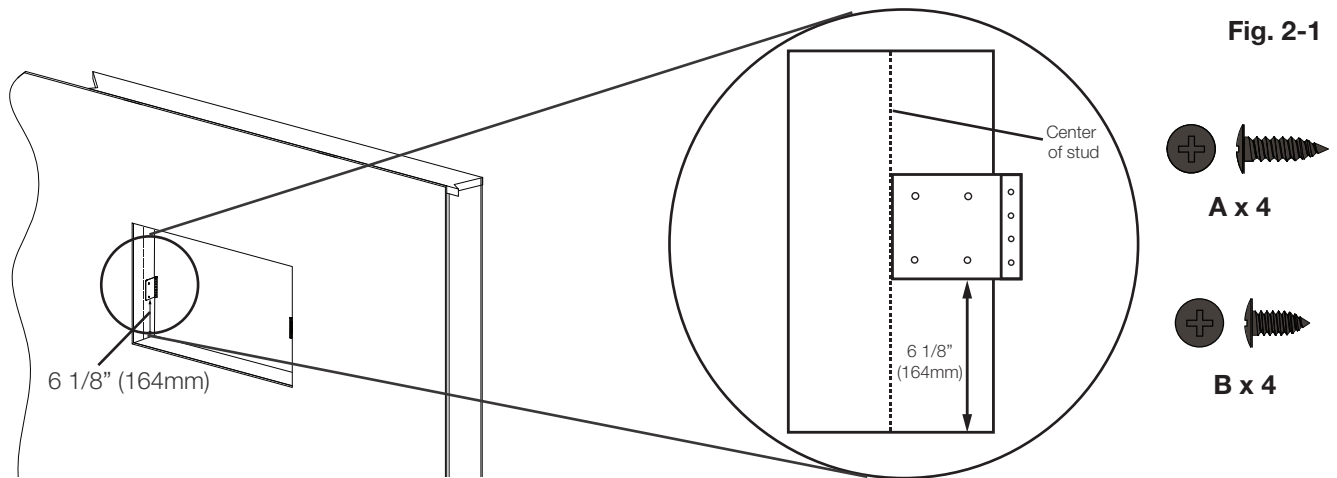

Fig. 2-1
- D. Install mounting bracket by aligning the edge with the centre of the stud, and 6 1/8” (164mm) from the bottom of the wall sides (**Fig. 2-1**).